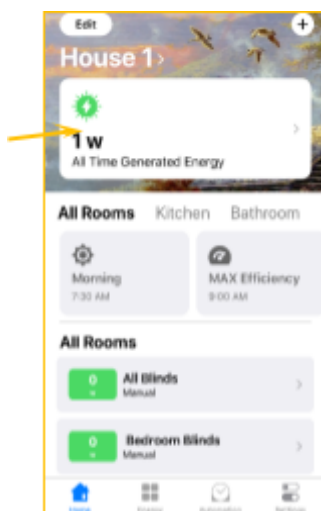
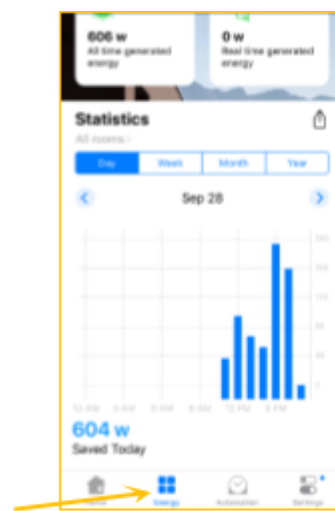

Figure 52
Figure 53
**10.12.1.** Click at **All Time Generated Energy** value (Fig. 52) or energy generation menu **Energy** (Fig. 53).
**10.12.4. Statistics** tab (Fig. 53) displays historical generation of power per day/week/month/year. To see the statistics for each individual room, click **All Rooms** tab and select the desired room. Click  to share the historical data.